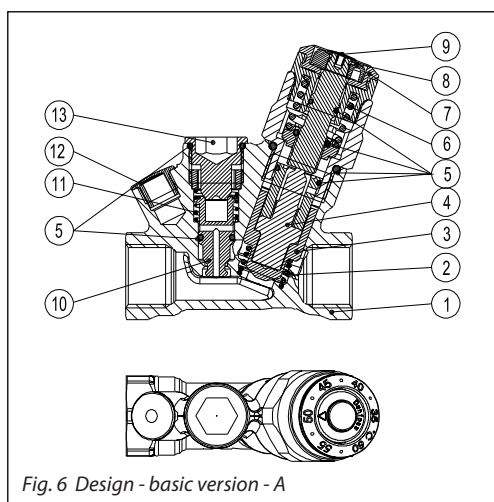
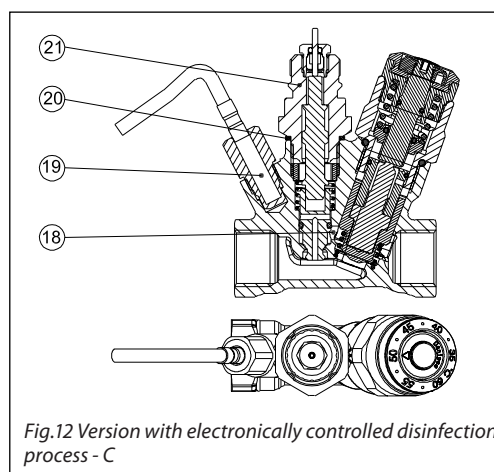

Fig. 6 Design - basic version - A
Fig.12 Version with electronically controlled disinfection process - C
The MTCV - is a thermostatic self-acting, proportional valve. A thermo-element (fig. 6 elem. 4) is placed in the valve cone (fig. 6 elem. 3) to react to temperature changes.
A safety spring (fig. 6 elem. 6) protects the thermo-element from being damaged when the water temperature exceeds the value on the set point.
After removing the plug from the disinfection plug (fig. 6 elem. 13)-(this can be done during working conditions, under pressure) the thermostatic disinfection module can be mounted (fig. 9 elem. 17).
- 1-13As described in fig. 6
A temperature sensor PT 1000 has to be mounted in the thermometer head (fig. 12 elem. 19). Thermo-actuator and sensor are connected to the electronic regulator CCR-2 which allows an efficient and effective disinfection process in each circulation riser. The main regulation module works within the temperature range 35-60 °C. When the disinfection process/thermal-water treatment starts CCR-2 controls the flow through MTCV via thermo-actuators TWA. Benefits of an electronic regulated disinfection process with CCR-2 are:
After removing the disinfection plug (fig. 6 elem. 13) the adapter can be mounted (fig. 12 elem. 21) and the thermo actuator TWA can be mounted.
- 1-13 As described in fig. 6